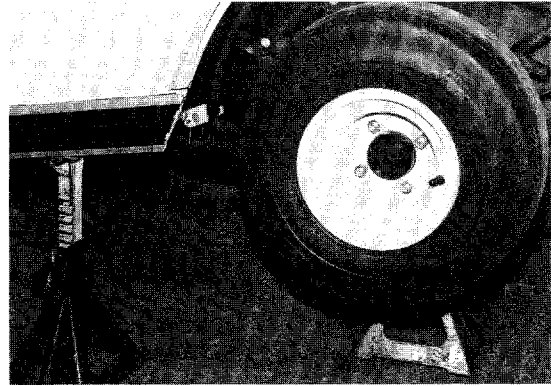

Figure 12-22
1. Use chain hoist, raise chassis and place jack stands under outside frame at front of rear tires on both sides to support car (**Figure 12-22**).